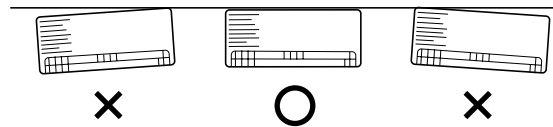

Fig. 3-67
- (2) Check with a tape measure or carpenter's level. This is important so that the unit is correctly installed. (Fig. 3-67)
- (3) Make sure the panel is flush against the wall. Any space between the wall and unit will cause noise and vibration.